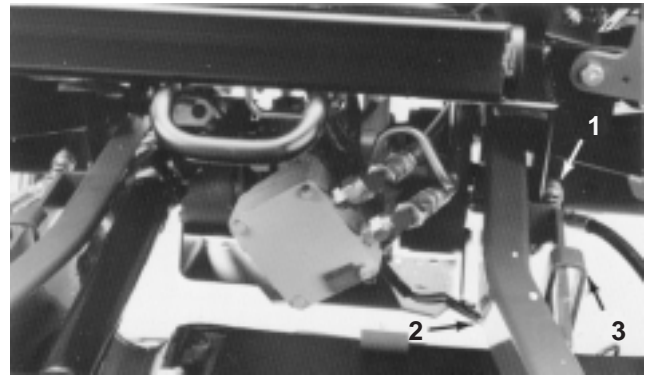

Figure 64
3. Disconnect the 3 hydraulic lines (quick couplers) and wire harness at rear of deck (Fig. 64).
4. Remove hairpin cotters and height-of-cut pins securing rear deck straps to height-of-cut brackets on deck (Fig. 64).